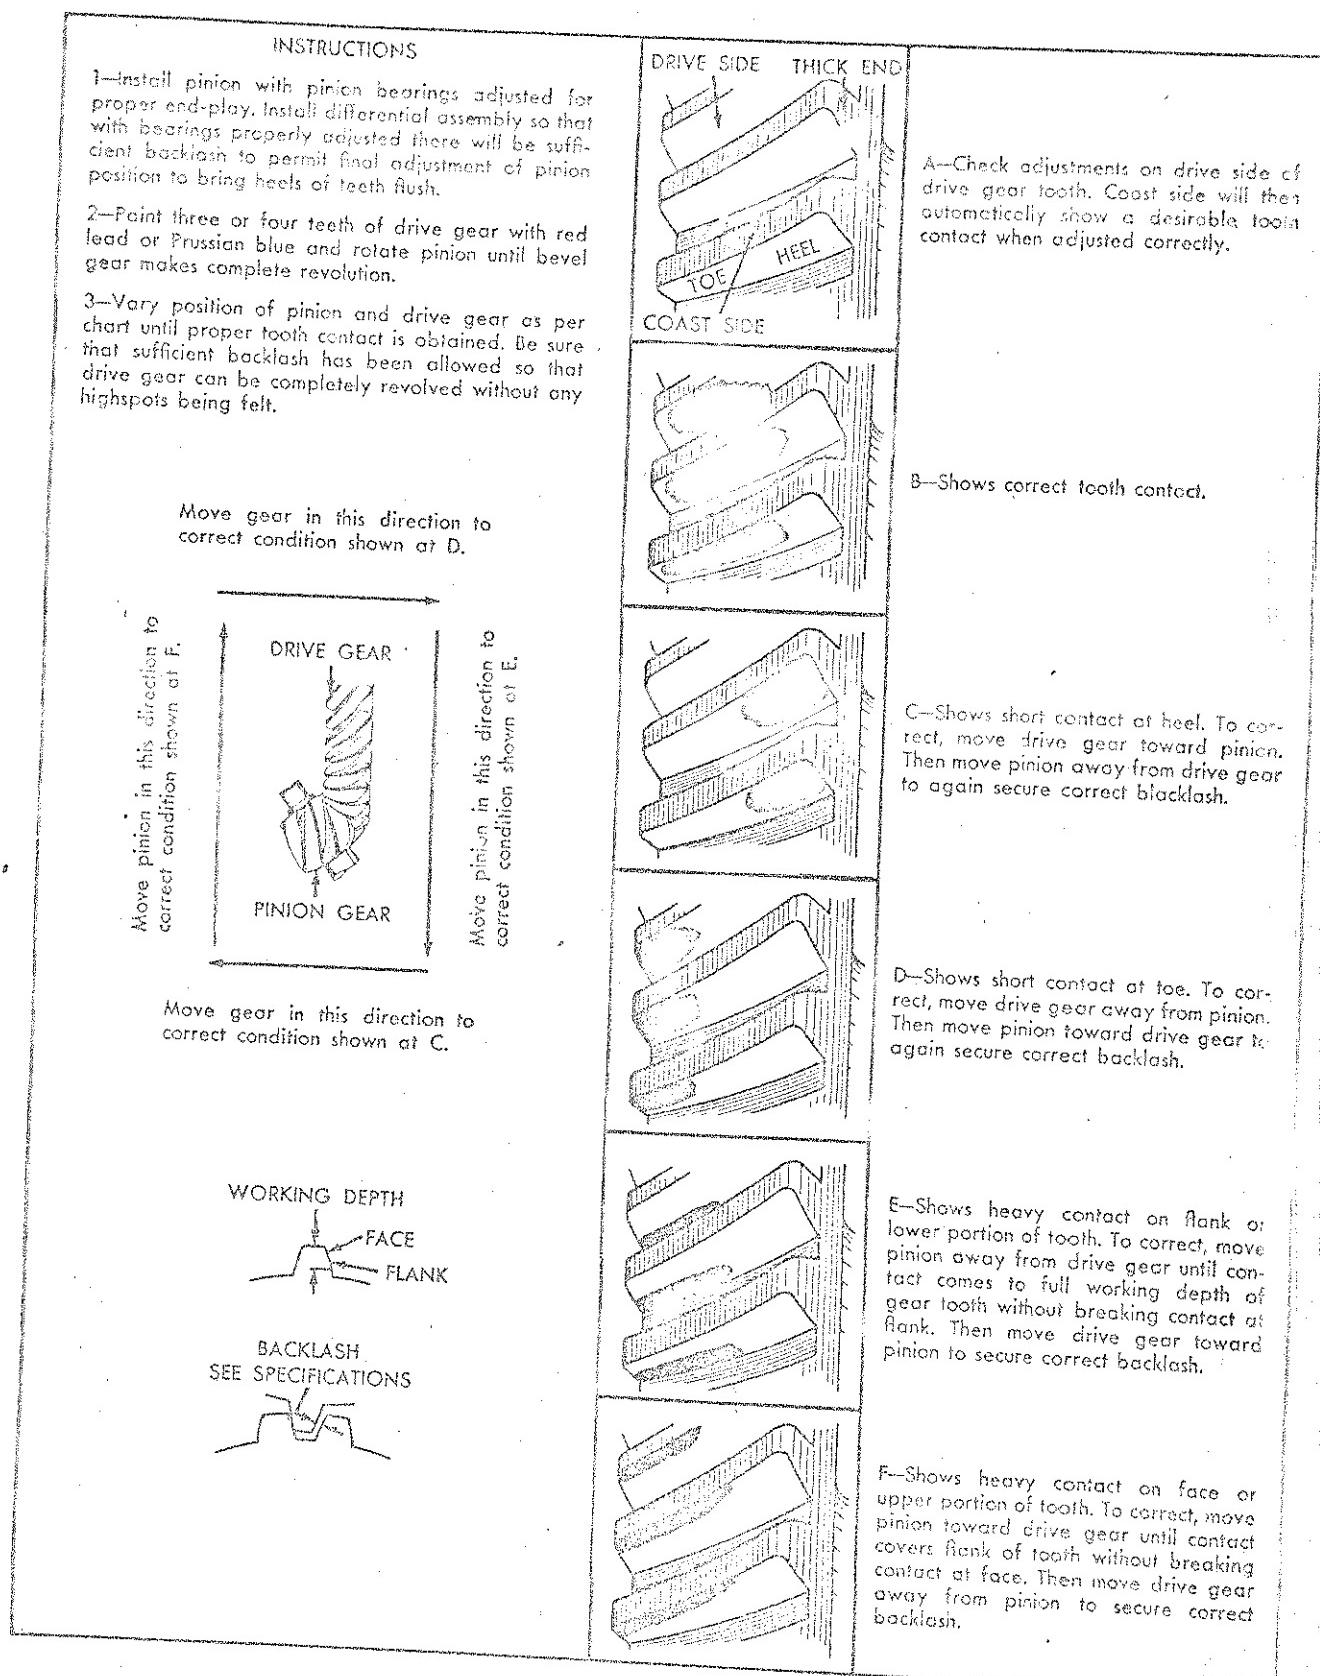

Figure 7—Gear Tooth Contact Chart
1. Install bearing caps (4) over differential bearings (3), make certain that dowel pins are tight in bearing caps (5). Position differential case in carrier and install bearing caps (5). Turn nuts (14) on bearing cap studs (6) up tight and then back off sufficiently to allow adjusting rings (2) to turn.
2. Screw adjusting rings (2) into place in carrier (30) and tighten rings to seat bearings. Then back rings (2) off until differential turns freely but with no perceptible end play.
3. Adjust relative position of pinion gear (49) and bevel drive gear (10) so back ends of gear teeth are flush and back lash is within limits given in "Specifications" at end of this section. Position of bevel drive gear is adjusted by turning adjusting rings (2) in carrier (30) to relocate bearings (3). Left-hand adjusting ring must be tightened same amount as right-hand ring is loosened, or vice versa, to maintain correct adjustment of side bearings. Pinion gear is moved in or out by removing or adding shims (32) between carrier (30) and pinion cage (45). Refer to "Specifications" at end of this section for thickness of shims available. When cage (45) is finally assembled be sure oil holes are in line.
4. Paint bevel drive gear (10) teeth with a mixture of red lead and light oil. Turn bevel drive gear one complete revolution in direction of driving rotation. Examine tooth contact impressions and refer to "Gear Tooth Contact Chart," figure 7. Chart explains in detail method to follow to obtain correct tooth contact.
5. After completing adjustment of tooth contact and backlash, tighten side bearing cap stud nuts (16) fully and install adjusting ring locks (19) and bolts (18).